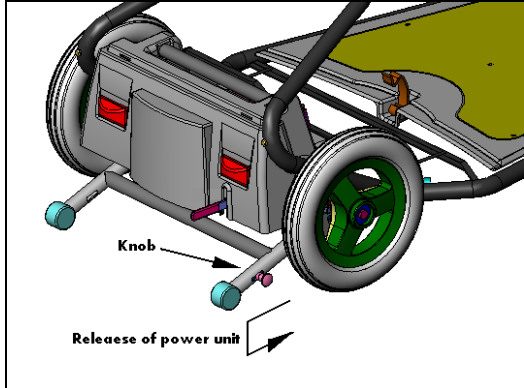

Figure 22a
- Squeeze the rear knob at the right of the anti tip and pushed it downward until locked again. (See **Figure 22a**)